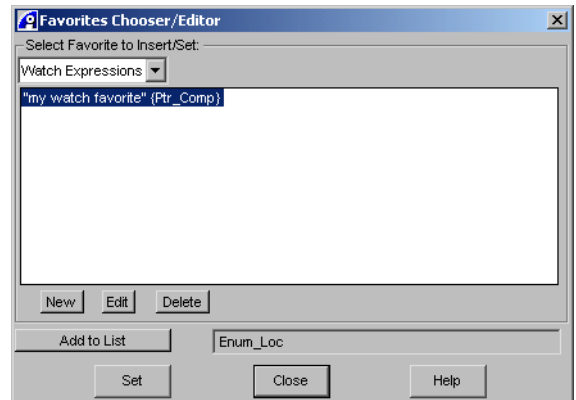

Figure 7-13 Existing watches in the Favorites Chooser/Editor
The Favorites Chooser/Editor dialog box is displayed with the newly-created watch shown in the display list (shown in Figure 7-13 on page 7-39). See *Using the Favorites Chooser/Editor dialog box* on page 9-29 for details.
2. Right-click on the Name and select **Add from Favorites...** from the **Name** menu. This displays the Favorites Chooser/Editor, shown in Figure 7-13 on page 7-39.